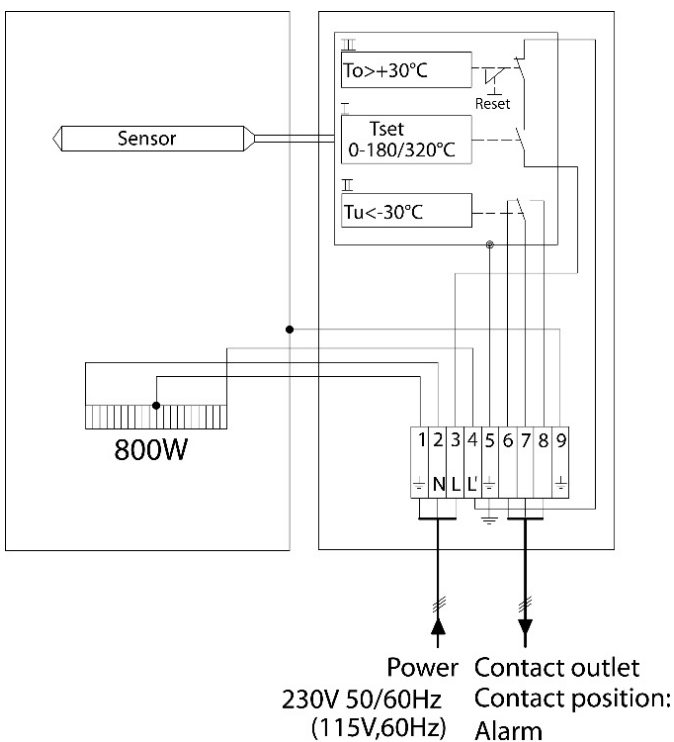

Figure 9 Electrical connection for SP2000-H, SP2300-H and SP2400-H with thermostat controller
1. Remove the lid of the connection box. The electrical connection layout is also located in the lid (Figure 9).